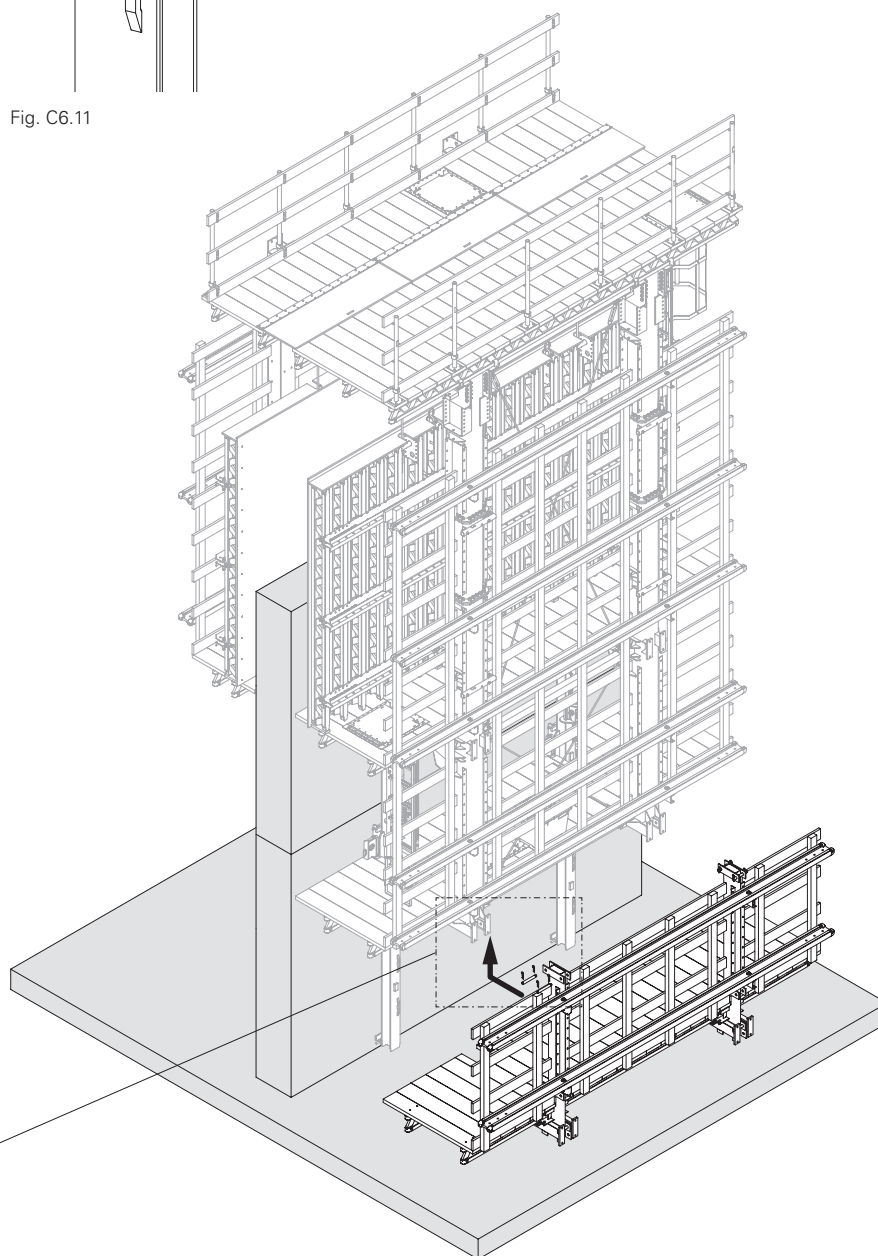

Fig. C6.12
5. Couple the finishing platform to the climbing unit with the fixing materials provided. (Fig. C6.12)